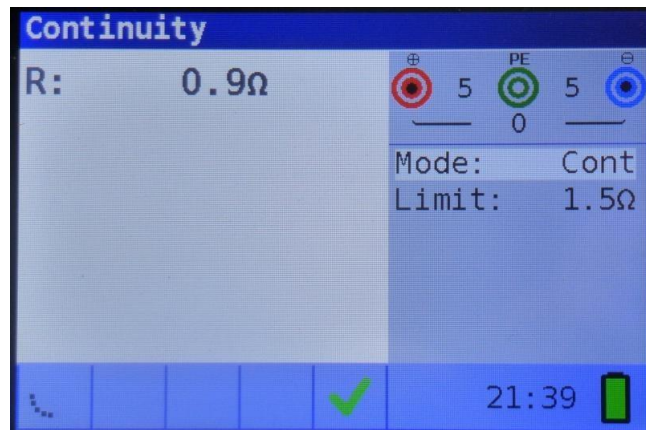

Figure 5-10: Example of Low current continuity measurement result
- Step 3** Connect test cable to the instrument and the item under test. Follow the connection diagram shown in figures 5.10 and 5.11 to perform the **Continuity** measurement.